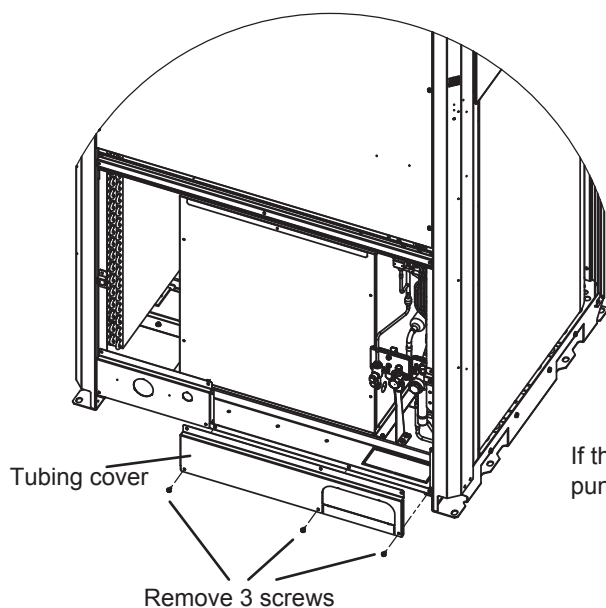

Fig. 2-4-22c
- (2) If the tubing is routed out from the bottom, use cutting pliers or a similar tool to cut out the tubing outlet slit (part indicated by ) from the tubing cover. (Figs. 2-4-22c and 2-4-23b)